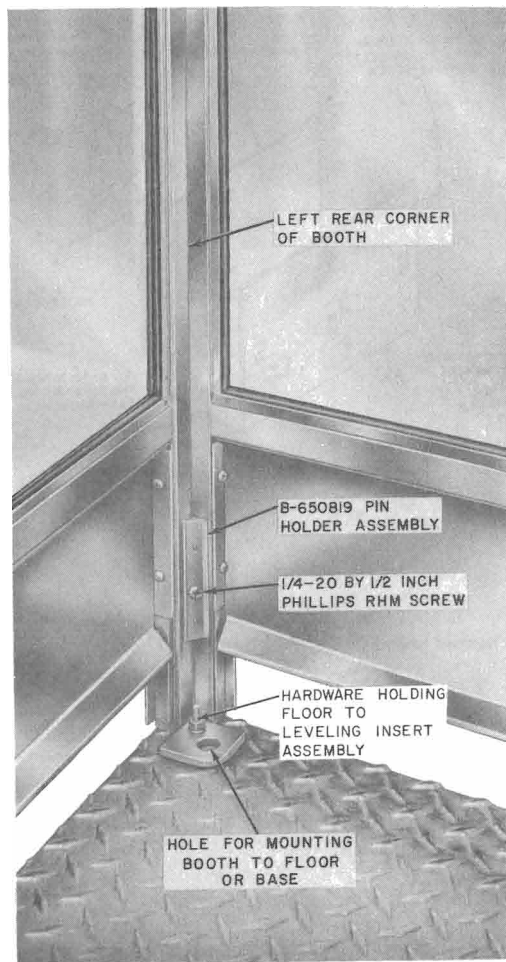

Fig. 13—Leveling Insert Assembly
2.23 An aluminum tread floor (Fig. 13) is furnished.
2.24 Adjustable leveling inserts (Fig. 13) are provided to facilitate booth leveling up to 2-inches. They are also used for bolting the booth to its mounting surface.
- (1) Mark the location for four mounting holes.
- (2) Drill four lead holes to accommodate 5/16 by 2-1/2 inch lag screws.
- (3) Secure booth to floor using four 5/16 by 2-1/2 inch lag screws, four 5/16-inch lockwashers, and four 5/16-inch flatwashers.
- (d) Adjust the leveling insert assemblies (Fig. 13) if necessary, and ensure that the booth is level.